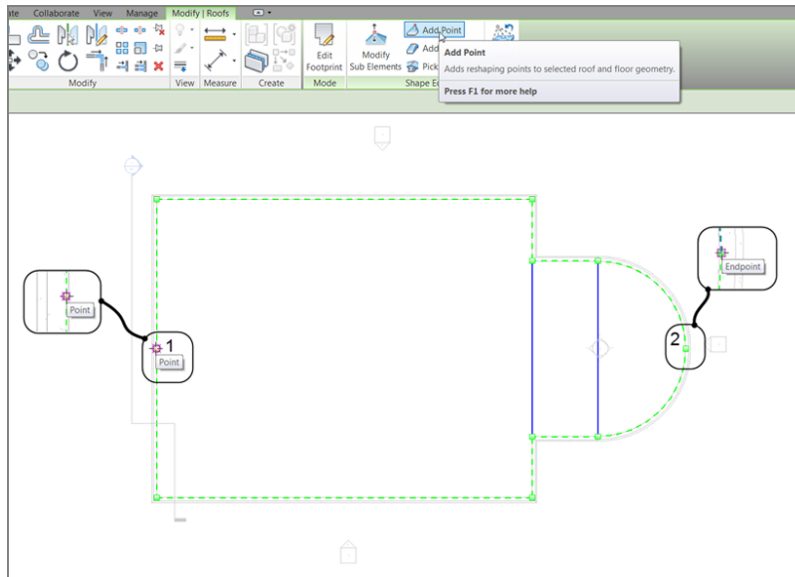

FIGURE 7.8: Click the Add Point button, and add the two points.
7. Click the Add Point button, as shown in Figure 7.8.
8. Add two points at the midpoints marked 1 and 2 in Figure 7.8.